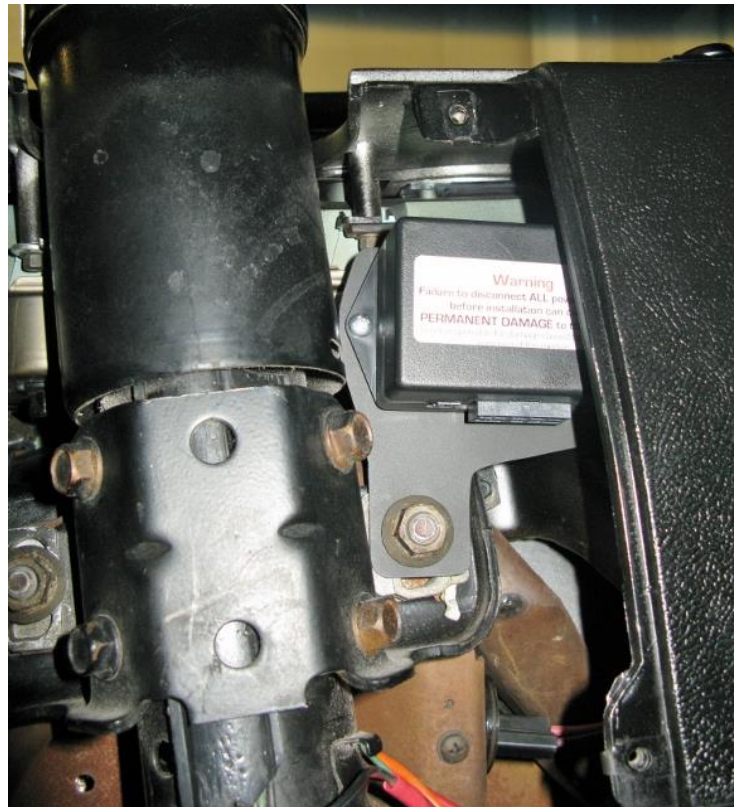

Figure 10 - Install Module & Mounting Plate
14. Remove the flange nut on the right side of the steering column and install the module and mounting plate (Figure 10). **NOTE:** The module connectors should be pointing towards the firewall.